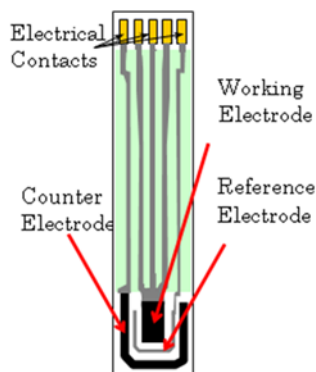

Figure 1. Schematic drawing of an integrated screen-printed electrode.
Students use a disposable electrode strip (as illustrated in Figure 1) screen-printed with a carbon working electrode (WE), a counter electrode (CE), and a silver/silver chloride reference electrode (REF) (Pine Instruments). Students simply plug the electrode strip into a reusable connector and the electrode handily fits in most vials. The metal electroplating can be conveniently performed in a simple 20 mL Scintillation vial using either a two terminal battery-powered configuration or 3-electrode potentiostat controlled cell configuration. The best metal films have been obtained using 3-electrode potentiostat controlled cell.
Nickel (Ni) plates very readily on the as-received carbon strip electrodes. A standard Watts Ni plating bath was prepared using 290g nickel sulfate hexahydrate, 30g boric acid, and 8g of sodium chloride per liter of solution. The Ni plating solution is rather stable and about 10 mL of the solution is sufficient for each student to complete all the tasks per lab session. Using a potentiostat, the potential of the carbon WE was held in Ni plating solution at -1.2V vs. Ag/AgCl REF for 90 seconds. Alternatively, students can use three 1.5 V AA batteries arranged in series as the power source for Ni plating by attaching the WE (as cathode) lead to negative terminal and CE (as anode) lead to positive terminal. Student should observe a vividly white Ni deposit layer gradually replacing the black carbon WE surface during the 90 seconds plating process. Vertical orientation of carbon strip electrode permits easy capture of images by a digital camera, Figure 1. For validating Faraday's Law, a weighable Ni deposit ($> 2.0\text{ mg}$, analytical balance needed) can be achieved by a longer plating time of one hour. Ethanol (10%) was added to the Watts Ni plating solution to improve the plating stability by preventing the carbon counter electrode from oxidizing itself. Overall electric charge can be recorded by the potentiostat.